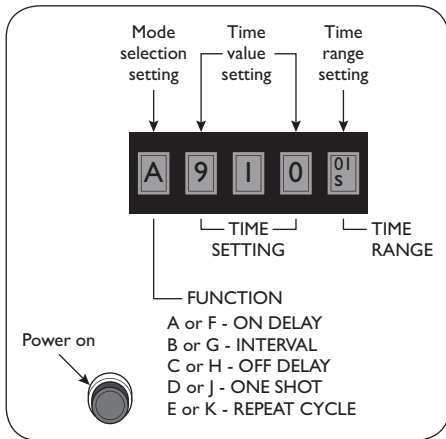
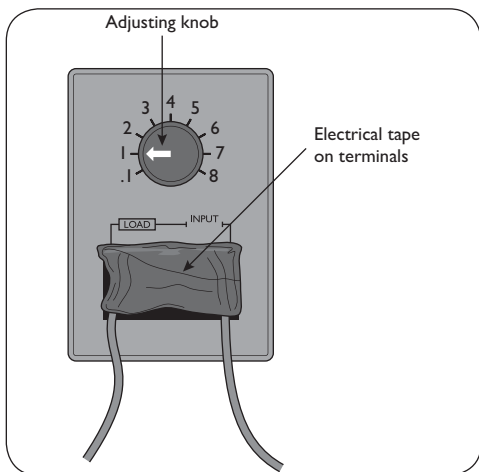

Figure 13-2 Solid State Multimode Programmable Timer with Digital Display and Power on LED
Figure 13-3 Solid State Two-Wire Timer, Adjustable from One to Five Minutes “Cube” Timer
integrated circuit (IC) microprocessor-based microcontrollers. These timers are reliable, small, low cost, multifaceted, and field adjustable. Figure 13-2 is a drawing of a typical multifunction timers face panel, while Figure 13-3 is a drawing of a simple two wire single-function adjustable timer. These types of timers are capable of switching faster than an electrical relay and can communicate with plant-wide controls systems such as field bus and other digitally based control systems.